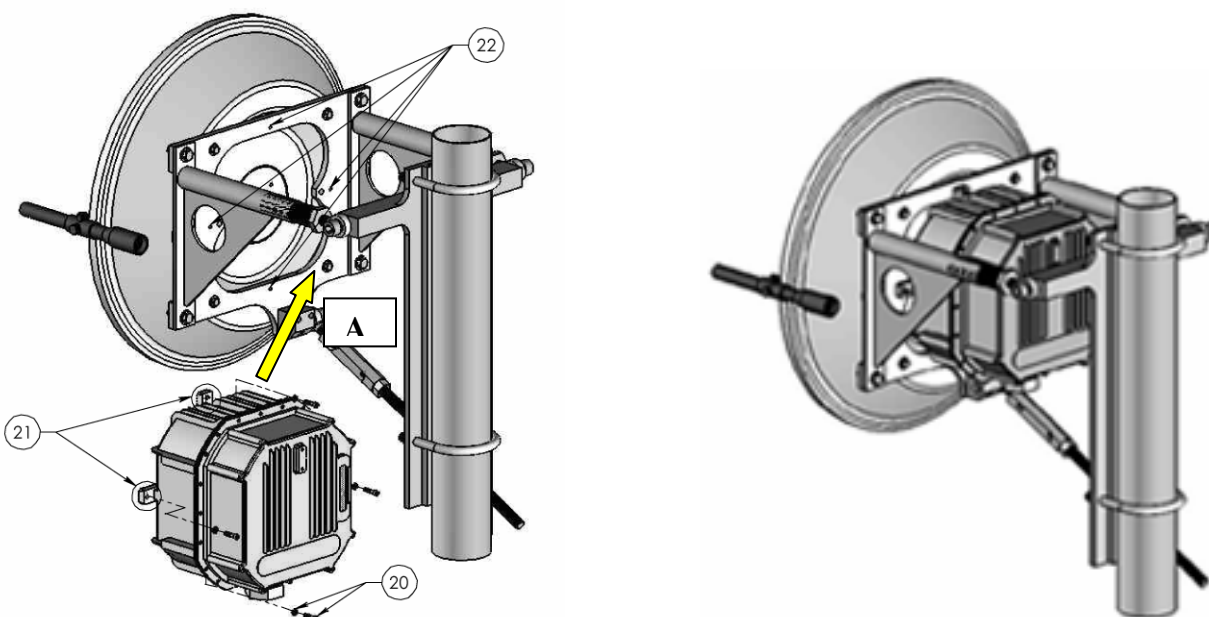

Figure 7. Attaching Transceiver to Steering System.
2.6 Attach Transceiver to Steering System (see Figure 7)